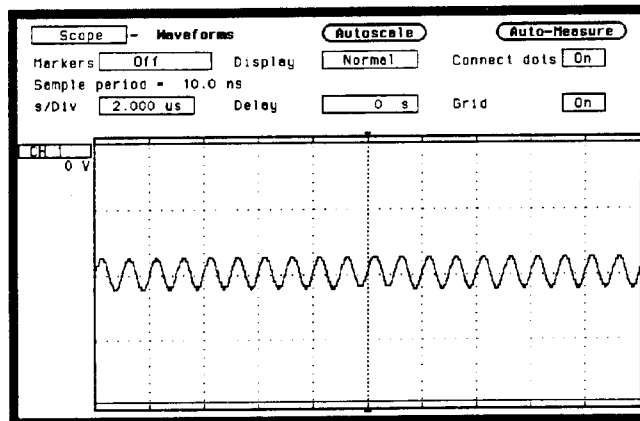

Figure 3-65. Waveforms Display Menu
9. Press TRACE/TRIG and adjust the trigger Level for a stable display (Auto-triggered message does not appear on screen). The test passes if triggering is stable, as shown in figure 3-65.